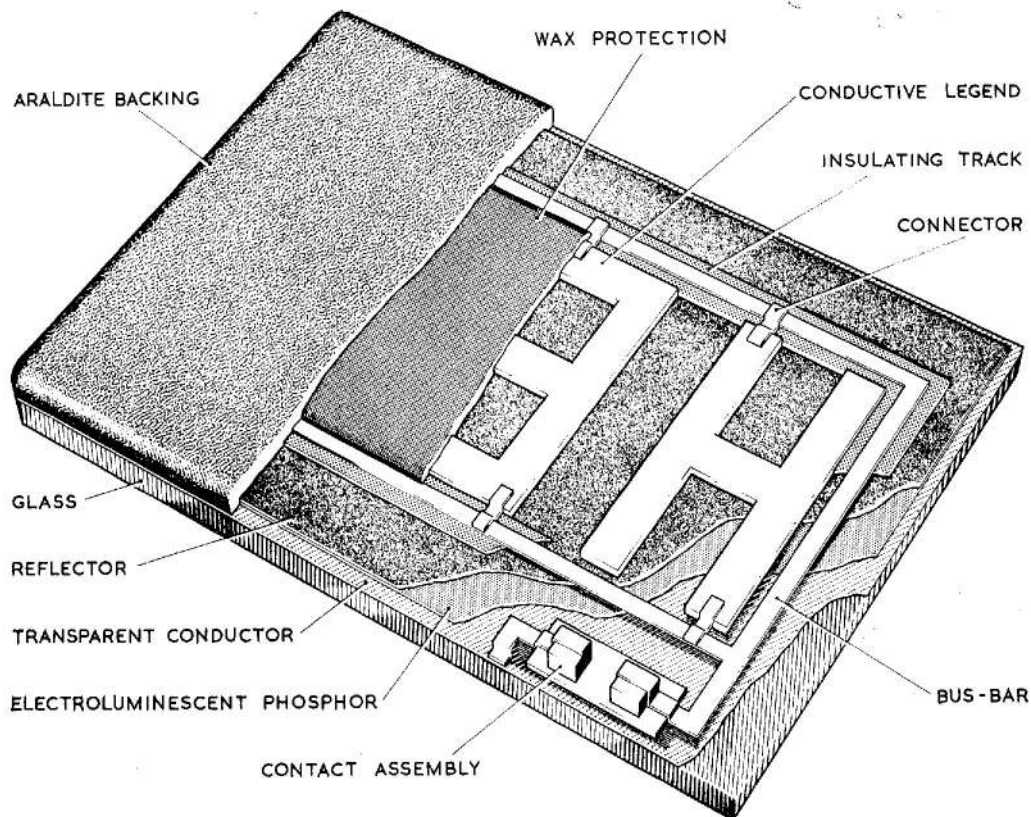

Fig. 2. Diagrammatic, sectional view of a typical sign-plate
4. The sign-plate, shown diagrammatically sectioned in fig. 2, consists essentially of a front glass screen coated with a film of stannous oxide which forms one plate of the capacitor, a resin dielectric with the suspended particles of phosphor, and a second plate fronted by a reflector. The rear plate is formed during manufacture into the required legend, and the supply connected to each portion of the legend by connecting links from a bus-bar around the outer periphery of the sign. The conducting layer of the front plate is connected by a further link directly to the appropriate contact stud.